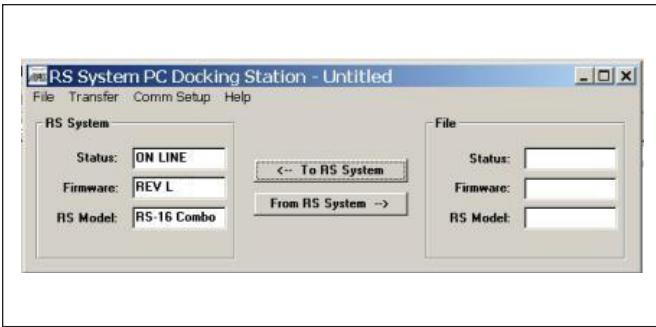
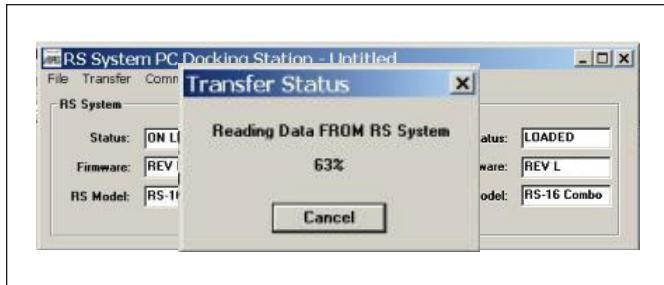

Figure 4. PC Docking Application Main Dialog Box
Figure 6. Transfer Status Dialog Box
1. On your computer, start PC Docking application. From the **Start** menu, select **Programs > Aqualink RS System Simulation> PC Dock**. Figure 4 illustrates the PC Docking application in an AquaLink RS16 combination system with firmware Revision L.
2. To read the setup data from the Power Center, click **From RS System** (see Figure 4). The setup data will take approximately 30 seconds to load. The Transfer Status dialog box opens during the data transfer (see Figure 6).